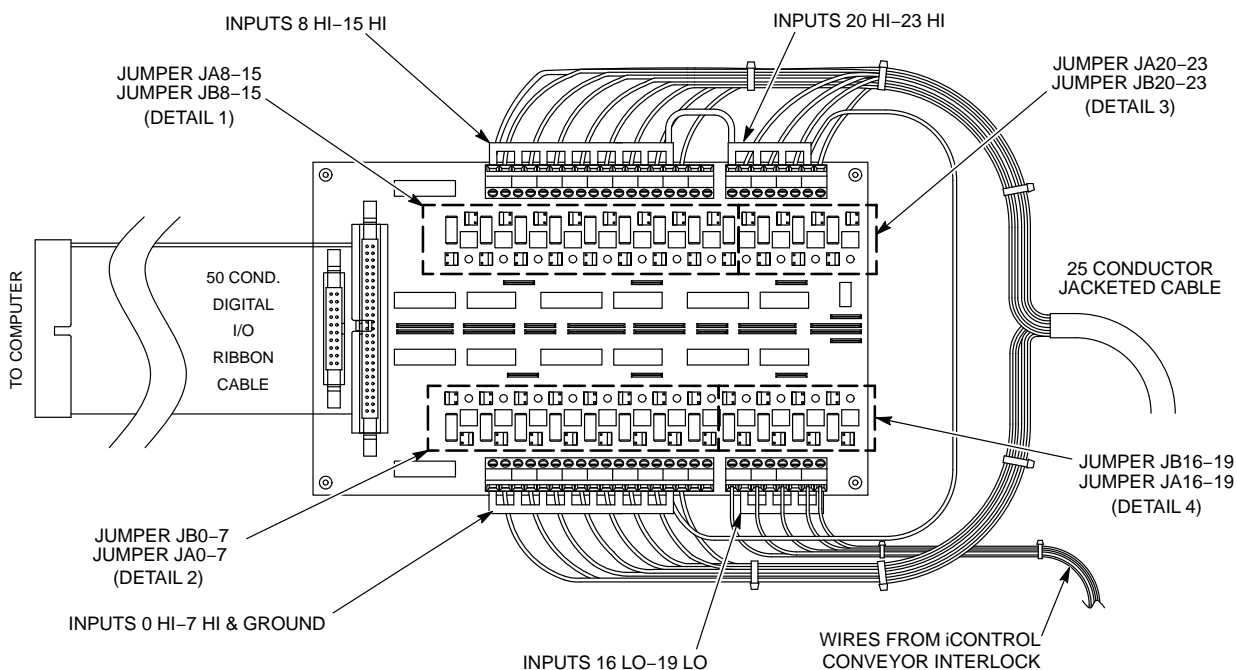

Figure 3 New Interface Card with Wiring and Ribbon Cable Connections
- Refer to Table 1 with Figure 3 to complete wiring to the interface card. Reconnect the wires of the 25 conductor cable and Table 2 to connect internally to the iControl 2 for the "Conveyor Interlock".
4. Use Figure 3 and 4 to configure jumpers and comb jumpers.